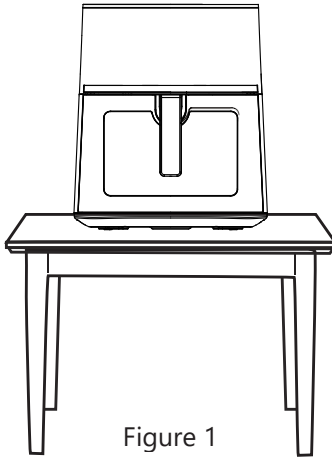

Figure 1
1. The product should be stably placed on a flat table (Figure 1), so that the power cord has a sufficient length to be plugged into the socket, and the air around the product should be kept in circulation and should not be close to flammable items.